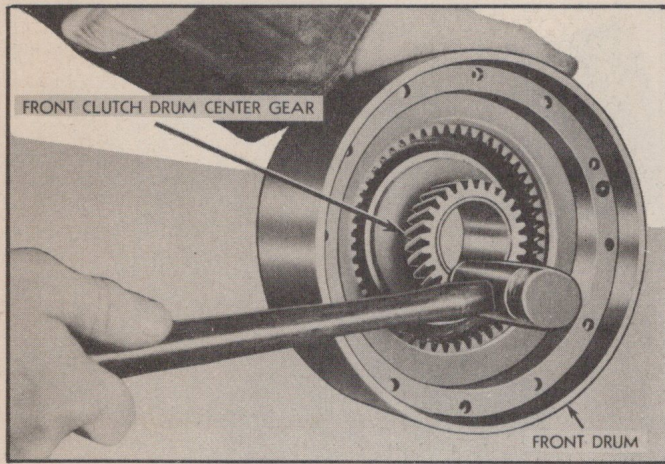

Fig. 136—Removing Front Clutch Drum from Front Unit Drum
2. Separate drums by tapping front face of center gear on front clutch drum with rawhide or similar hammer (Fig. 136).